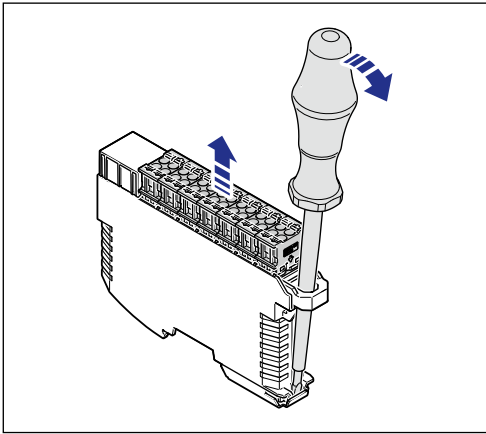

Fig. 10: Removing all connectors
1. Insert a screwdriver through the opening of the bracket of the connection module (Fig. 10).